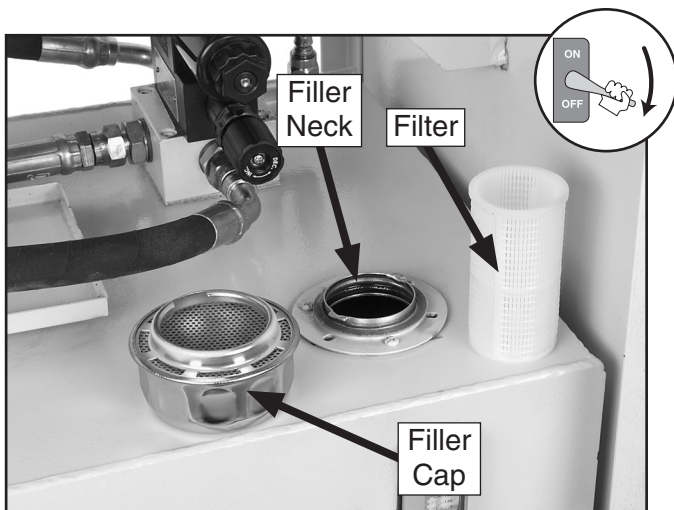

Figure 55. Hydraulic reservoir filler components.
3. Unscrew the filler cap, and take out the filter from the filler neck (see **Figure 55**).